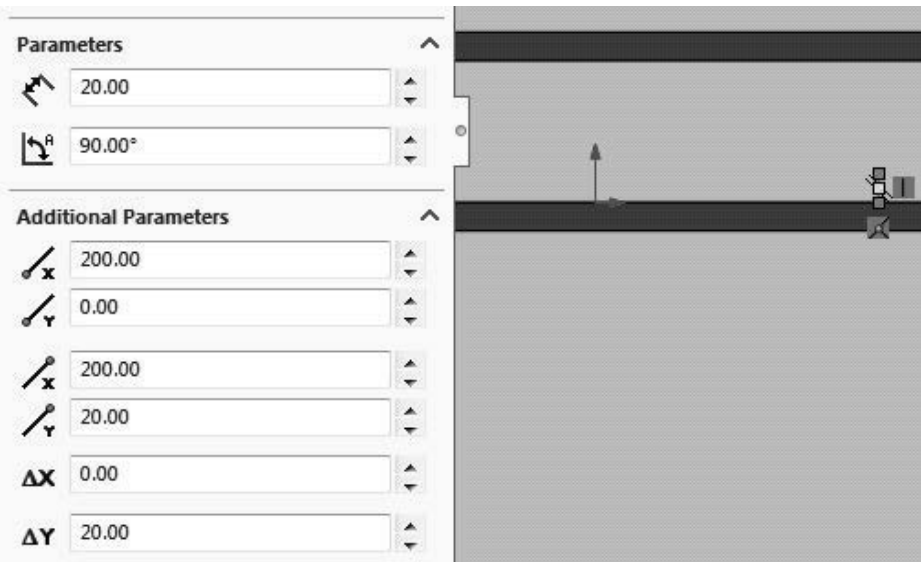

Figure 2.7 Parameters for vertical line
7. Draw a vertical line in the positive Y-direction in the front plane starting at the lower inner surface of the sketch. Set the **Parameters** and **Additional Parameters** to the values shown in figure 2.7. Close the **Line Properties** dialog and the **Insert Line** dialog.